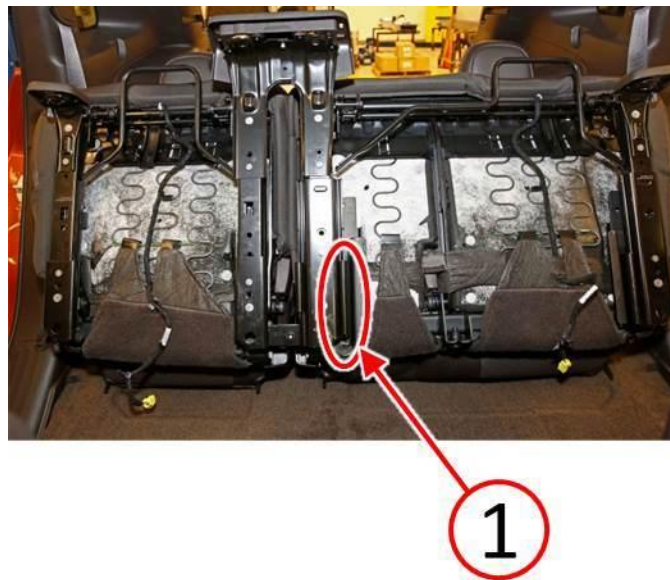

Fig. 1 Rear Seat Unbolted And Repositioned In Vehicle
7. With the seat back folded down and seat track in the full rearward position, lift the seat off the rear studs and flip 90 degrees so that the bottom of the seat is exposed (Fig. 1).